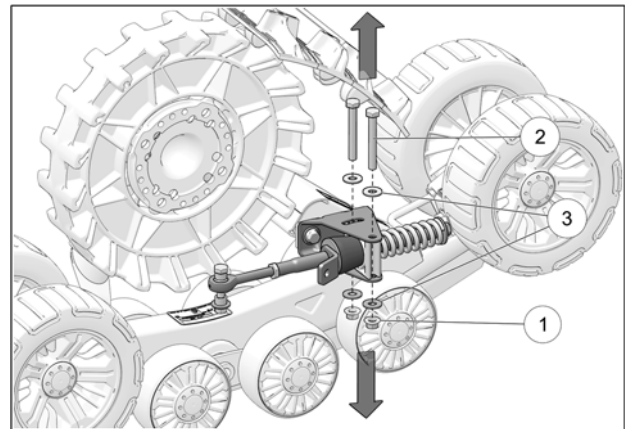

Fig. 18
3. Loosen and remove nuts (1), bolts (2), and washers (3) securing anti-rotation arm to front Track system. See Fig. 18